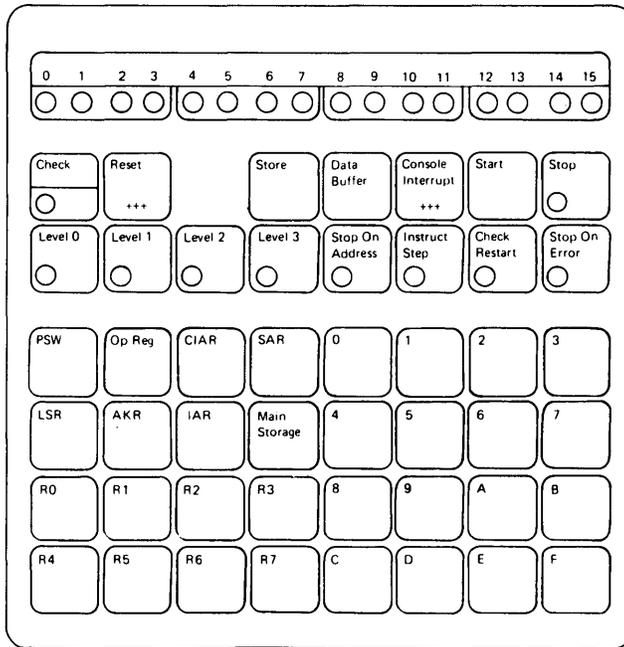

Figure 2-6. Programmer console
This feature is intended for operator-oriented systems where programs are being tested or various programs will be entered and executed during the day. This type of environment requires a more versatile console to (1) determine program and machine problems, and (2) to manually alter data and programs in storage. The following indicators and controls are provided: Check and Data Display indicators; Level, Stop, Stop on Address, Instruction Step, Check Restart, and Stop on Error key/indicators; Reset, Store, Data Buffer, Console Interrupt, and Start keys (see Figure 2-6).
The programmer console feature is identical to that on the 4955 except that the address key register is not available on the 4953 and cannot be displayed or altered. The programmer console was described earlier in this publication (see Figure 2-6).